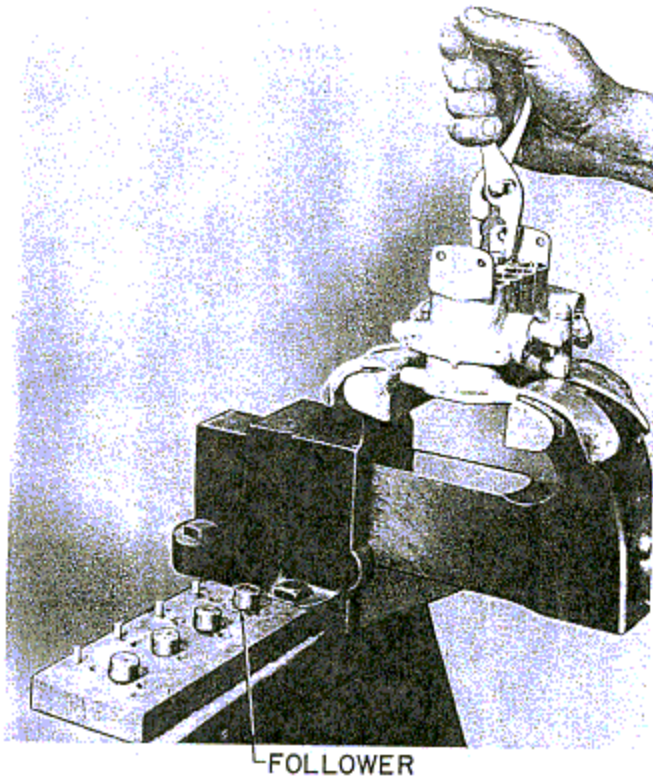
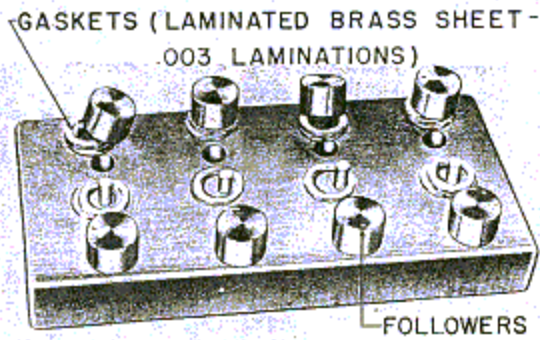

Figure 230—Removing Followers from Valve Body
Figure 231—Method for Keeping Follower Assemblies Intact
4. Remove the retainer spring on top of the valve body and pull the followers out of the valve as shown in figure 230. It is very important that the followers and gaskets, including the shims, be kept together and in order so that they may be replaced in the same order in the valve body upon reinstallation. (See figure 231.)